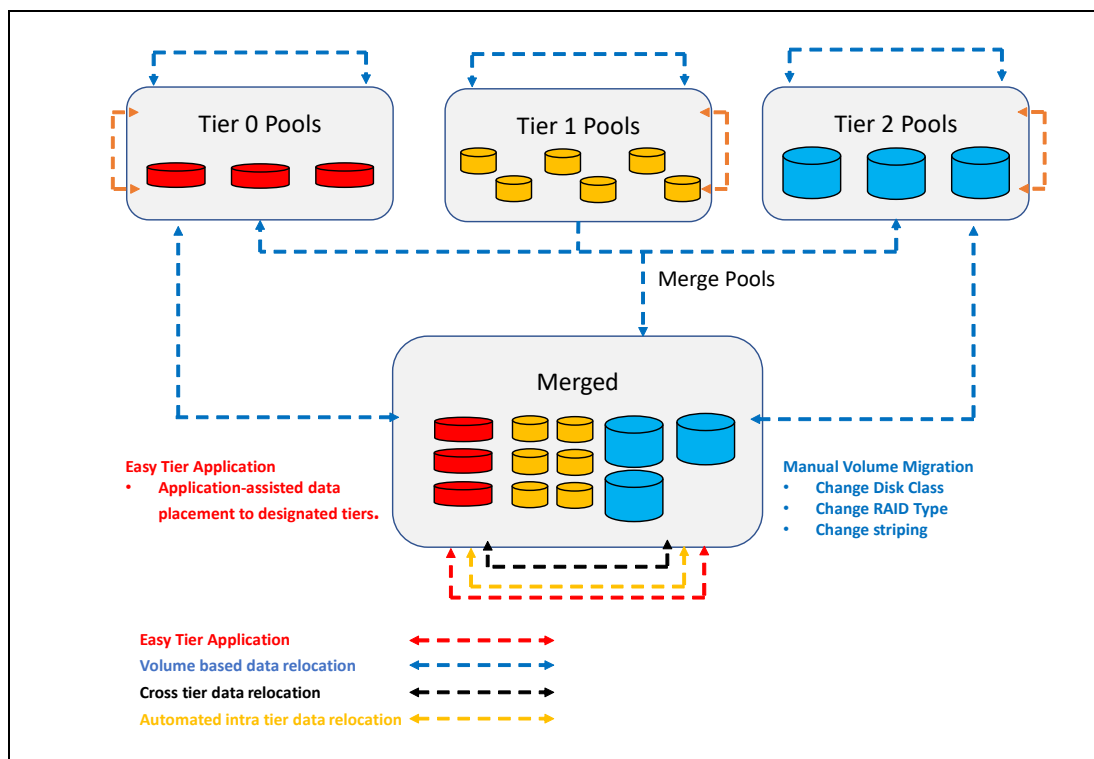

Figure 4-4 Easy Tier migration types
*Dynamic extent pool merge* is a capability that is provided by the Easy Tier manual mode facility, which is shown in Figure 4-4 on page 115. It allows one extent pool to be merged into another extent pool if they meet these criteria: